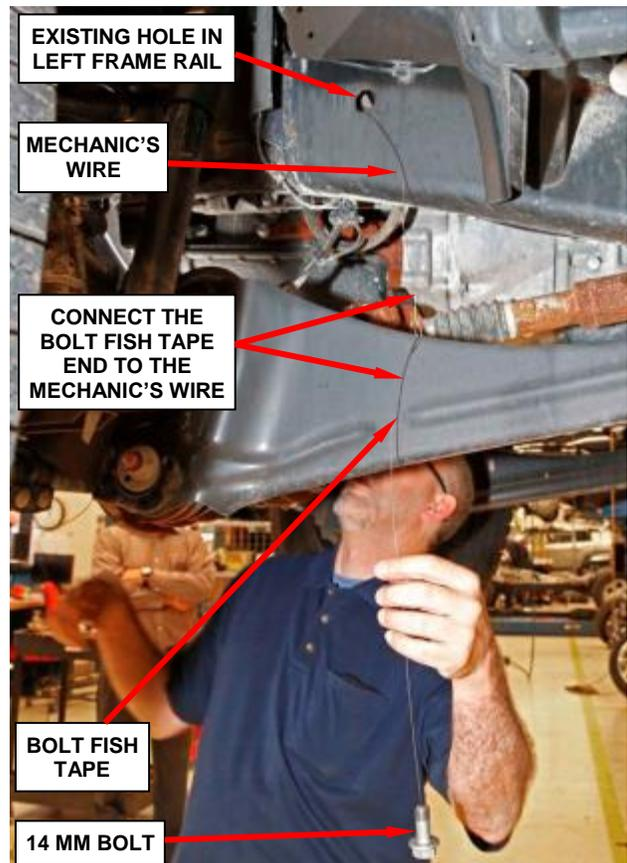

Figure 23 – Install 14 MM Bolt
43. Using a piece of mechanic’s wire and starting at the 5/8” diameter frame hole, insert the mechanic’s wire and feed it through the frame until it comes out the existing hole in the outside face of the left frame rail (Figure 23).
44. Connect the mechanic’s wire end to the “bolt fish tape” end at the outside face of the left frame rail (Figure 23).